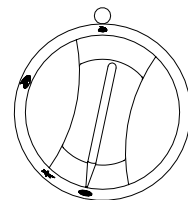

Figure 2
2. Press knob in and turn to ignition symbol (see Figure 2).
6. With pilot lit, turn burner tap to full on position (large flame symbol - see Figure 2). Check burner lights from pilot.
With burner lit, close compartment door. Allow oven to heat up with burner full on for 20 to 30 minutes until steam is rapidly escaping from top vent. The oven is now ready for use and burner tap should be turned back to economy position (small flame symbol - see Figure 2) until food is ready to be loaded.